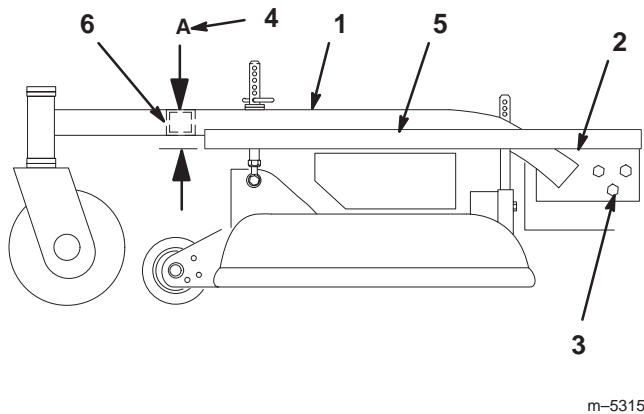

Figure 46
2. Place a long straight edge on top of the engine deck as shown in figure 46.
3. At the carrier frame cross tube, measure location “A” height (Fig. 46). This measurement must be 2–13/16 in., plus or minus a 1/4 in.
5. Loosen the carrier frame mounting bolts on both sides of the machine (Fig. 46).
6. Align the carrier frame and engine deck to match 2–13/16 in., plus or minus a 1/4 in. at location “A” (Fig. 46).